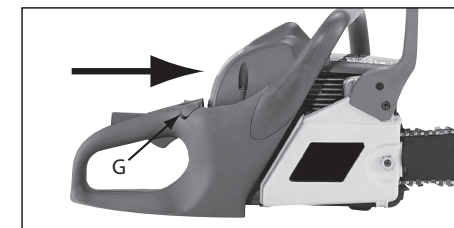

Fig. 9E
5. Move choke lever (G) in completely. (Fig. 9E)